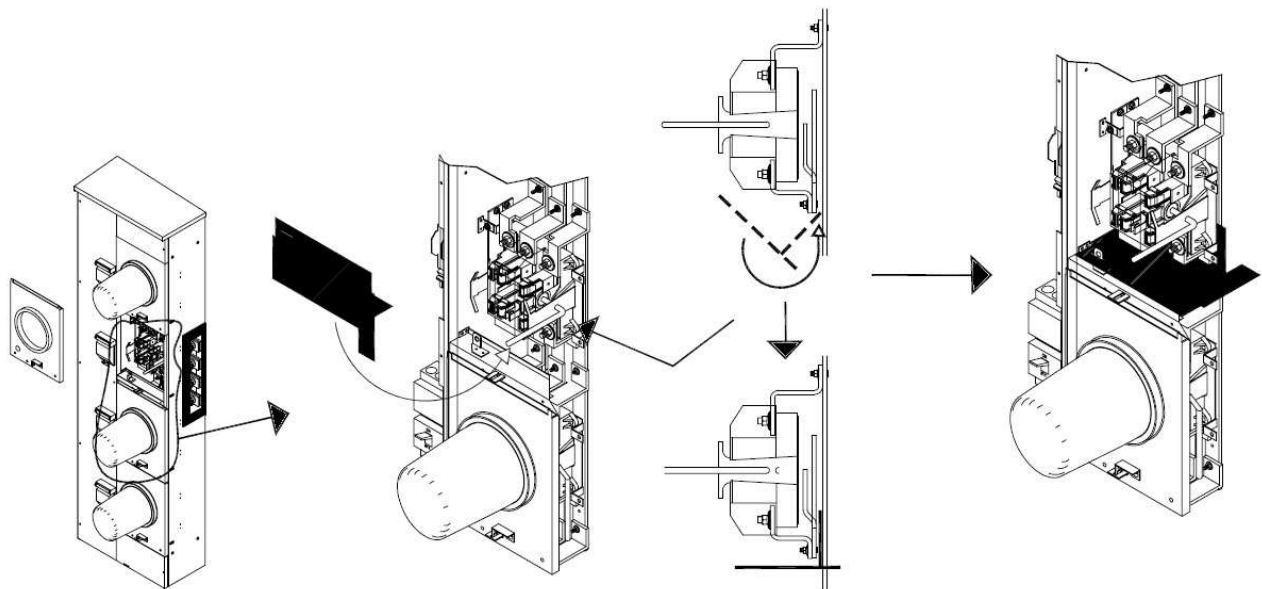

Figure 1 / Figura 1
2. View the figure 1 to install the meter barrier.